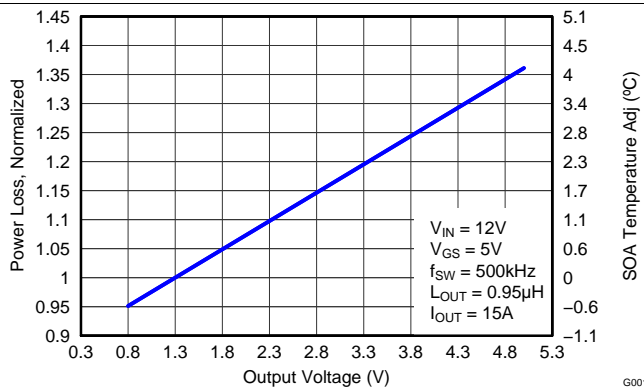

Figure 7. Normalized Power Loss vs Output Voltage
- Normalized Power Loss for output voltage ≈ 0.97 (Figure 7)
- SOA adjustment for output voltage $\approx -0.3^\circ\text{C}$ (Figure 7)